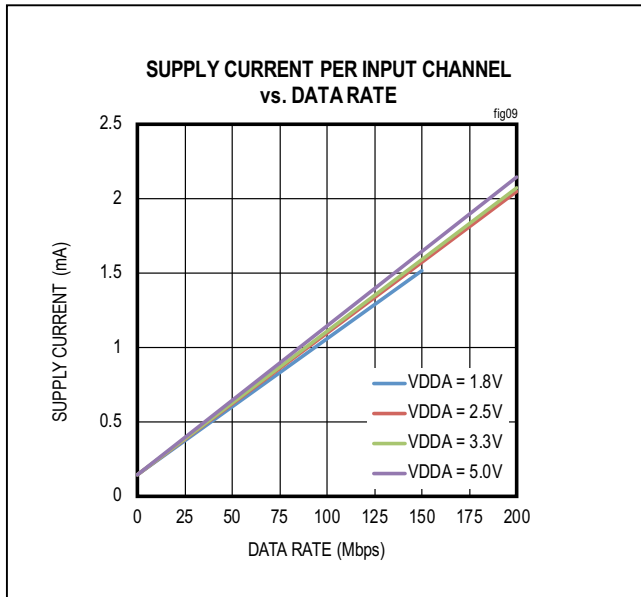
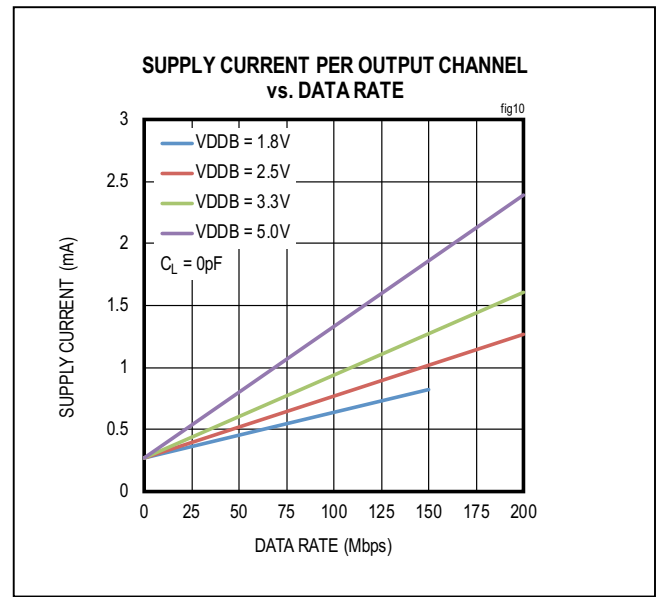

Figure 9. Supply Current Per Input Channel (Estimated)
Figure 10. Supply Current Per Output Channel (Estimated)
The required current for a given supply (V_{DDB} or V_{DDB}) can be estimated by summing the current required for each channel. The supply current for a channel depends on whether the channel is an input or an output, the channel's data rate, and the capacitive or resistive load if it is an output. The typical current for an input or output at any data rate can be estimated from the graphs in Figure 9 and Figure 10. Please note the data in Figure 9 and Figure 10 are extrapolated from the supply current measurements in a typical operating condition.
The total current for a single channel is the sum of the “no load” current (shown in Figure 9 and Figure 10) which is a function of Voltage and Data Rate, and the “load current,” which depends on the type of load. Current into a capacitive load is a function of the load capacitance, the switching frequency, and the supply voltage.
- Channel 1 is an input channel operating at 2.5V and 20Mbps, consuming 0.33mA, estimated from Figure 9.
- Channel 2 and 3 are input channels operating at 2.5V with DC signal, consuming 0.14mA, estimated from Figure 9.
- Channel 4 is an output channel operating at 2.5V and 100Mbps, consuming 0.77mA, estimated from Figure 10.
- Channel 1 is an output channel operating at 3.3V and 20Mbps, consuming 0.40mA, estimated from Figure 10.
- Channel 2 and 3 are output channels operating at 3.3V with DC signal, consuming 0.27mA, estimated from Figure 10.
- Channel 4 is an input channel operating at 3.3V and 100Mbps, consuming 1.11mA, estimated from Figure 9.